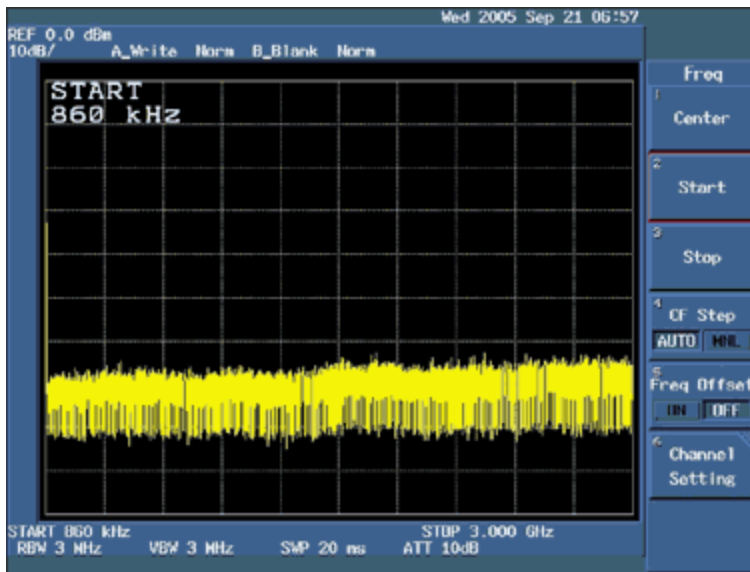

Figure 2. Setting up the start frequency at 860kHz.
2. Press soft key #2 (**Start**) and type the start frequency using the numeric keypad, followed by the appropriate units (GHz, MHz, kHz, or Hz) key to enter the value. From Tables 1 and 2, for both the input and output port, the frequency range starts from **860kHz**, as shown in **Figure 2**.